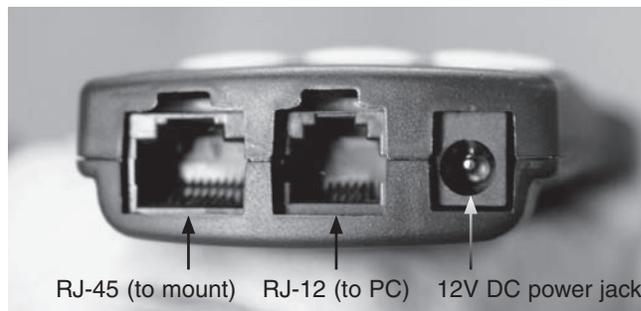

Figure 4a: Hand controller outlets
6. The TeleTrack AZ-G hand controller cable has a large, modular connector (RJ-45) and a smaller, modular connector (RJ-12). First, plug the large modular connector of the hand controller cable into the corresponding jack on the hand controller (Figure 4a) until it clicks into place. The smaller jack is used to interface the TeleTrack AZ-G